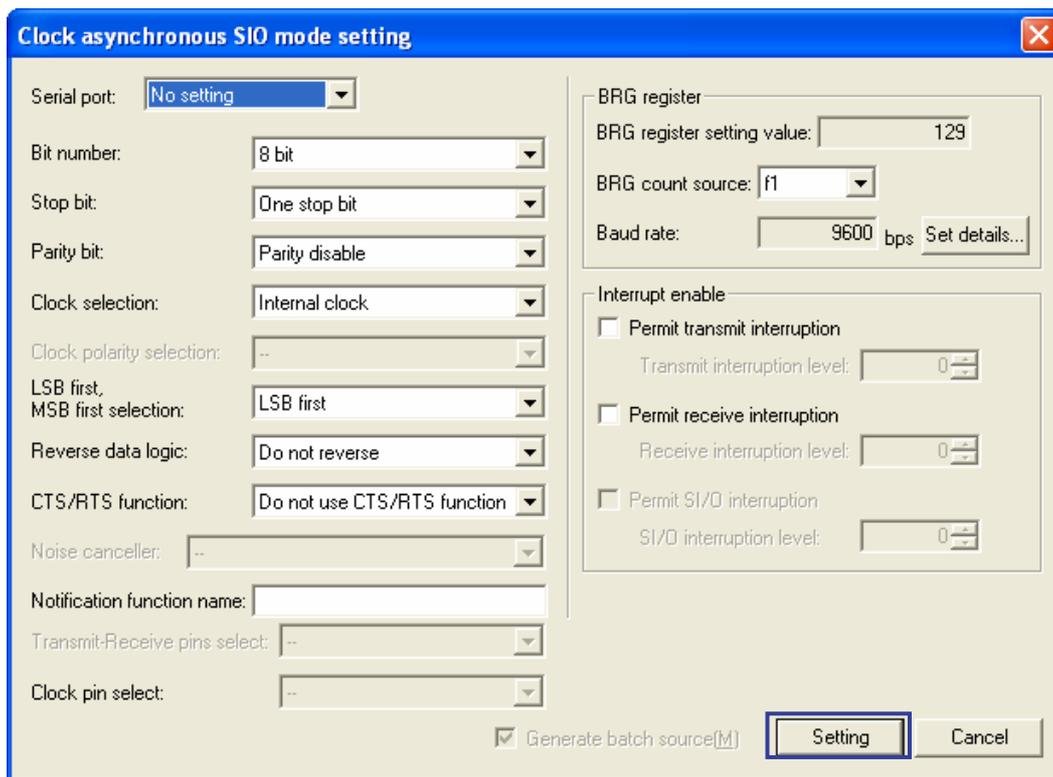

Figure 3-7 [Clock asynchronous SIO mode setting] Dialog Box
- [2] After setting functions of each peripheral I/O modules (see figure 3-7), clicking on the [Setting] button lists the setting details (setup pattern) in the right of the main window (see figure 3-8).